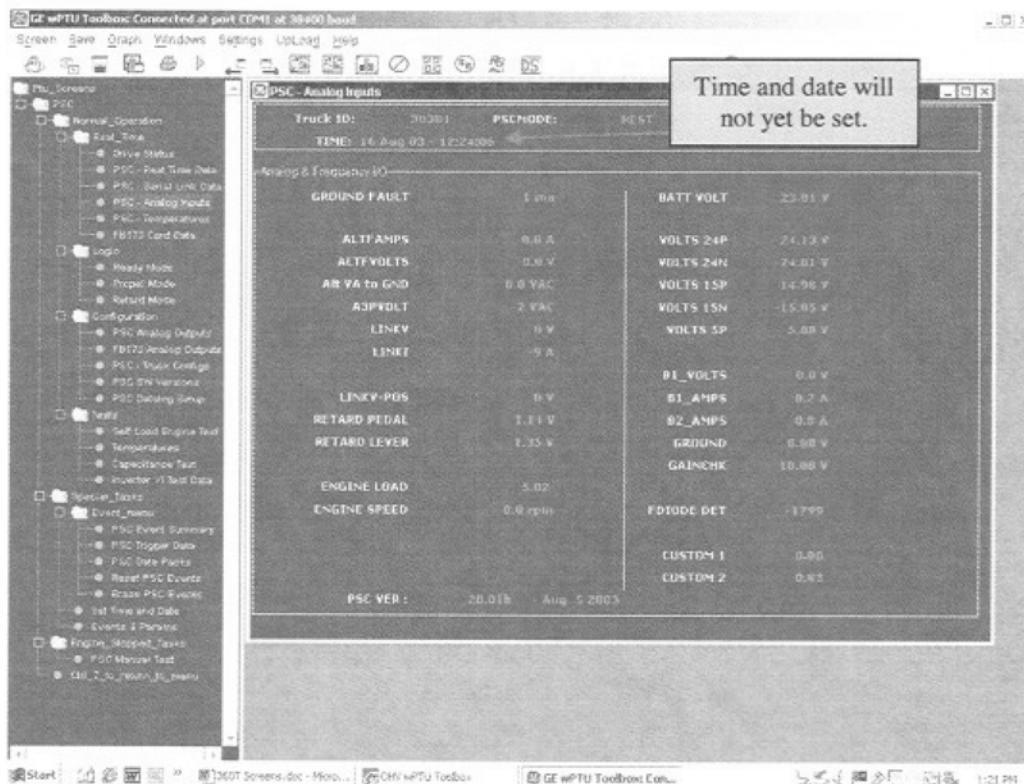

FIGURE 3-5. PSC ANALOG INPUTS SCREEN
- Verify that the analog and digital values are similar to the example in Figure 3-5.
- Verify that the temperature values are similar to the example in Figure 3-5.